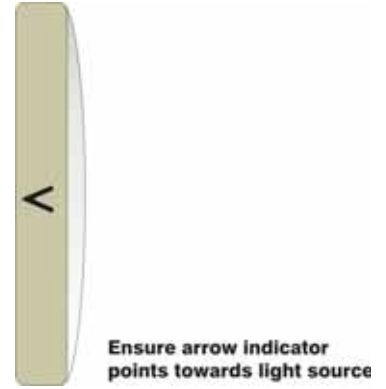

Figure 5-36 Orientation
8. Reverse the above steps to reinstall. Ensure the filter is installed with the arrow indicator on the edge of the filter pointing towards the lamp. **(Figure 5-36)**